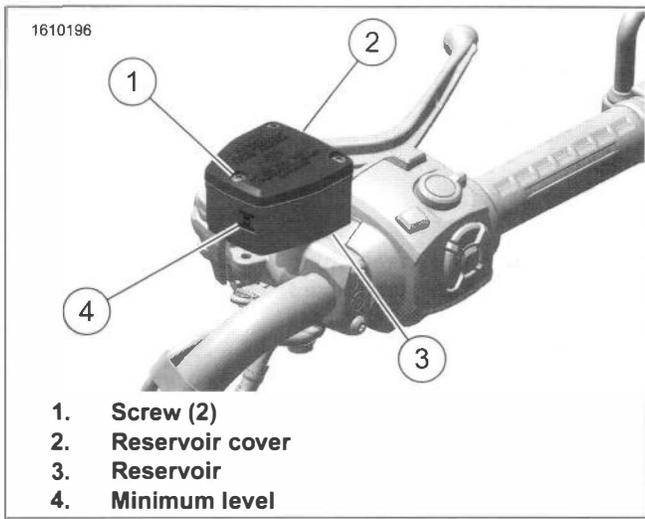

Figure 2-13. Front Master Cylinder Reservoir
2. **Front master cylinder reservoir:** See Figure 2-13.
- a. Remove screws (1).
- b. Remove cover (2).
- c. Check fluid level is above minimum mark (4) on side of reservoir (3).
- e. Install cover (2).
- f. Install screws (1). Tighten.